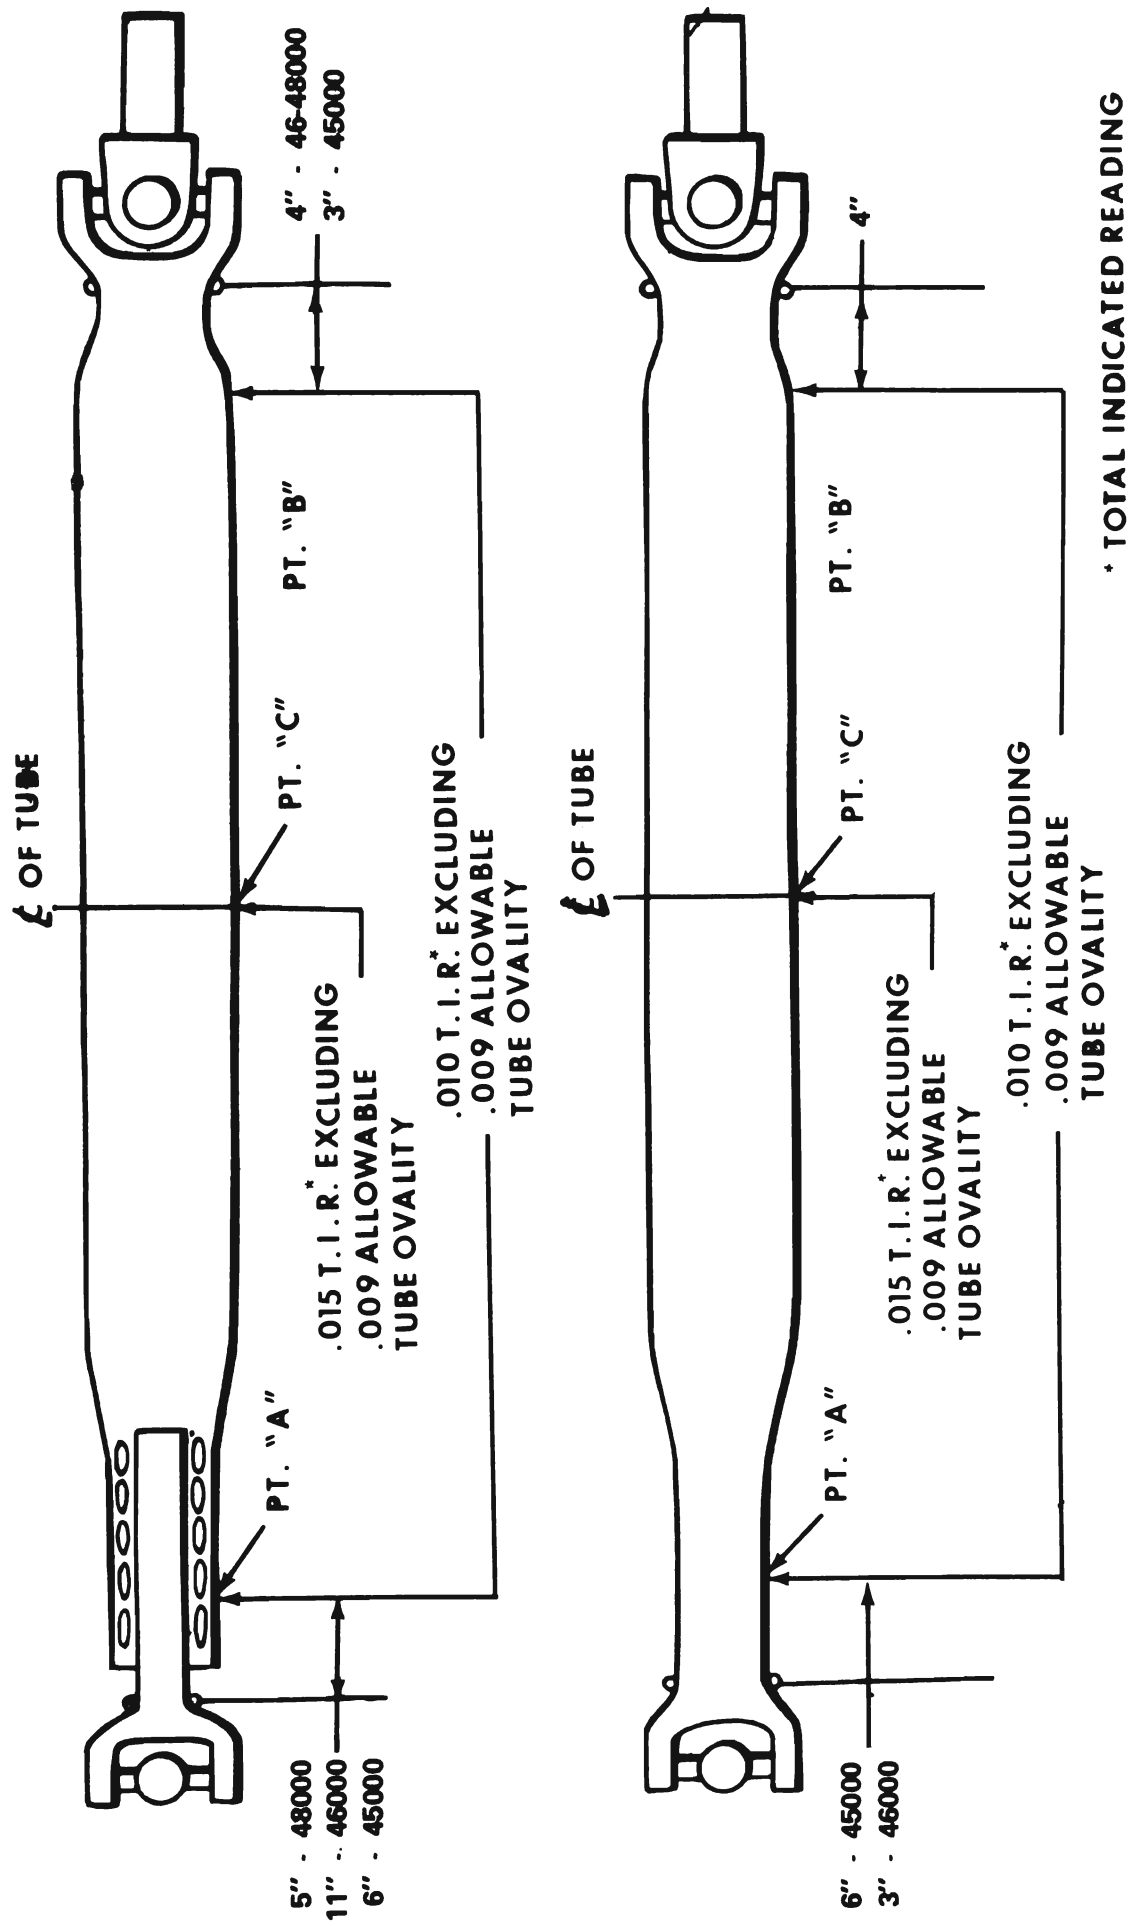

Figure 40-62 - Checking Propeller Shaft Run-Out
2. Mount a dial indicator on a movable support that is high enough to permit contact of indicator contact button with propeller shaft. Readings are to be taken at points indicated in Figure 40-62.